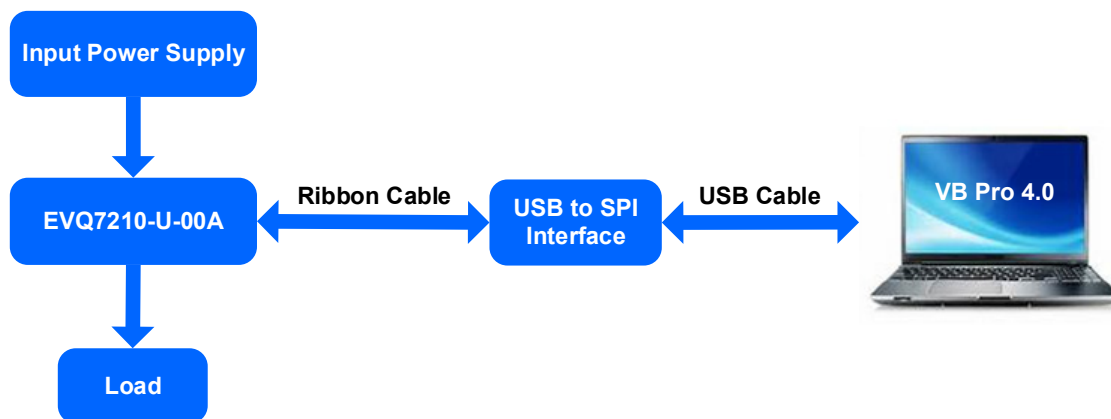

Figure 1: Communicate Kit Connection Diagram
8. To use the graphic user interface (GUI), connect a communication interface to the CN1 pin using the ribbon cable provided with the communication interface (see Figure 1). ⁽¹⁾ If the ribbon cable is too long, SPI communication may fail.